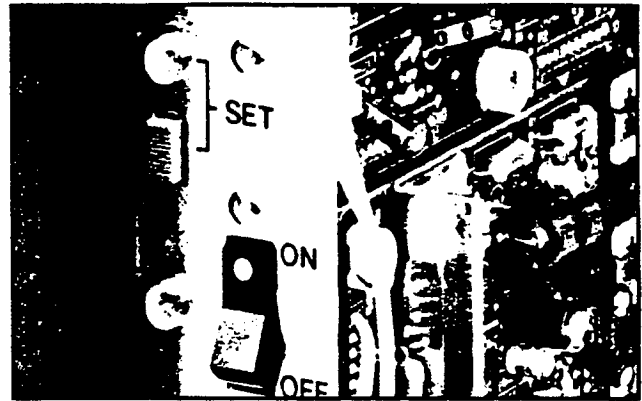

FIGURE 28—SET SWITCH
11.02 To initialize the system data memory, refer to Figure 28 and perform the following steps: